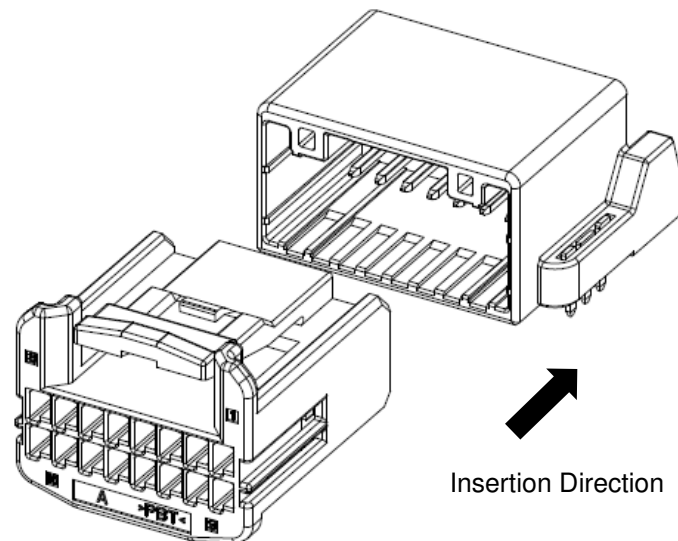

Figure 5
- C. Insert the proper female housing into the male connector straight with same direction as shown in Figure 5. The operation is finished when you hear the click sound and cannot insert further. When you cannot insert the housing, do not insert by force.